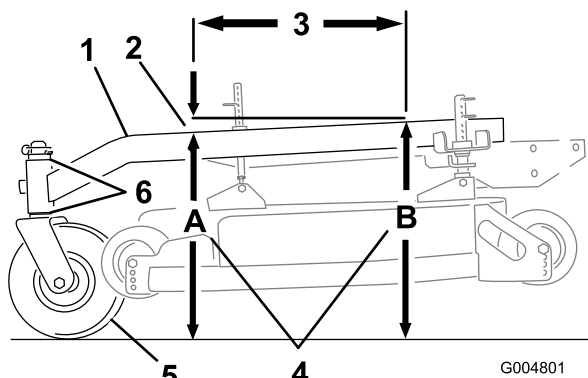

Figure 56
The carrier frame must have a pitch between 1/8 inch (3 mm) to 3/8 inch (9 mm) over the length of 24 inches (61 cm) on the carrier frame (Figure 56).
- Measure out 24 inches (61 cm) on the carrier frame (Figure 56).
- Measure carrier frame height at location **A** (Figure 56).
- Measure carrier frame height at location **B** (Figure 56).
- The height at location **A** must be an 1/8-3/8 inch (3 mm -10 mm) lower than location **B** (Figure 56).
- If the carrier frame is not correct, move caster spacers to make it an 1/8-3/8 inch (3 -10 mm) pitch (Figure 56). Move spacers from top or bottom to make the correct pitch.